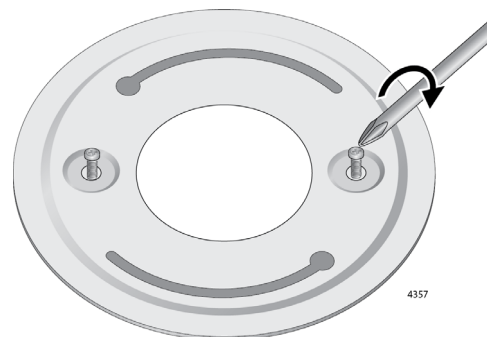

Figure 24. Installing the Mounting Base on a Hard-Surface Ceiling or Wall
11. Install the mounting base on the hard-surface ceiling or wall as shown in Figure 24.